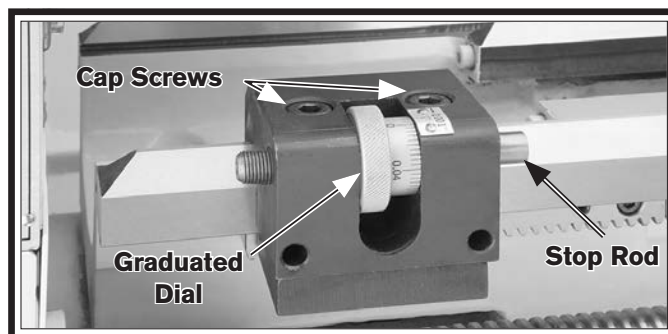

Figure 63. Micrometer stop.
2. Loosen the cap screws shown in **Figure 63**, then use the carriage handwheel to position the carriage at the desired stopping point.